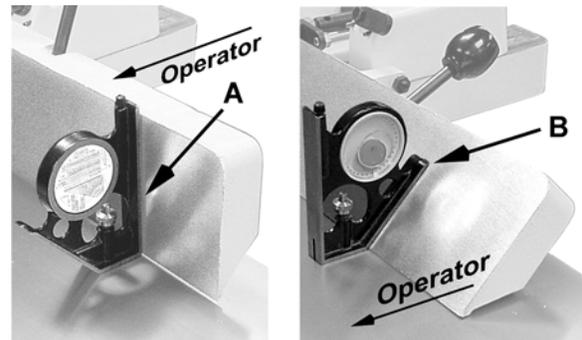

Figure 13
5. Place an angle measuring device on the table and against the fence to confirm a 90° setting (A, Fig. 13).
6. If the fence is not square to the table, release the *lock handle* (B), loosen the *lock nut* (D) that secures the *stop bolt* (F), and turn the stop bolt until the fence is square to the table.
7. Tighten the *lock nut* (D) to secure the *stop bolt* (F) which retains the setting.
8. Tighten the *lock handle* (B).
1. Loosen the lock handle (B).
2. Move the stop plate (C) out of the way and position the fence at the 135° angle; fence tilt lever (E) is positioned away from the operator as shown. Make sure the fence sits against the *stop bolt* (H).
3. Tighten the lock handle (B).
4. Place an angle measuring device on the table and against the fence to confirm a 135° setting (B, Fig. 13).
5. To adjust, loosen the *lock nut* (J) securing the *stop bolt* (H) and turn the stop bolt until a 135° angle is obtained.
6. Tighten the *lock nut* (J).